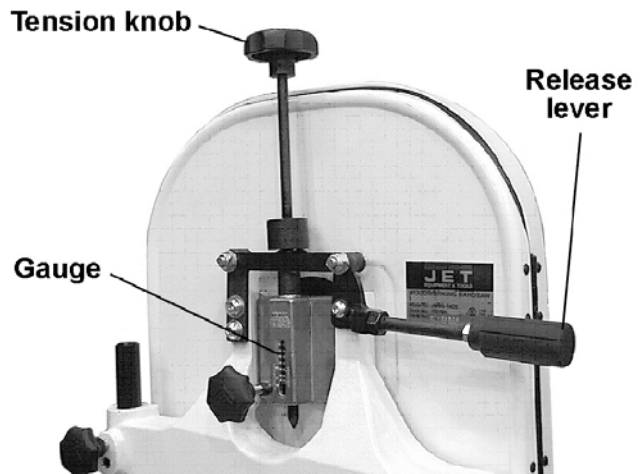
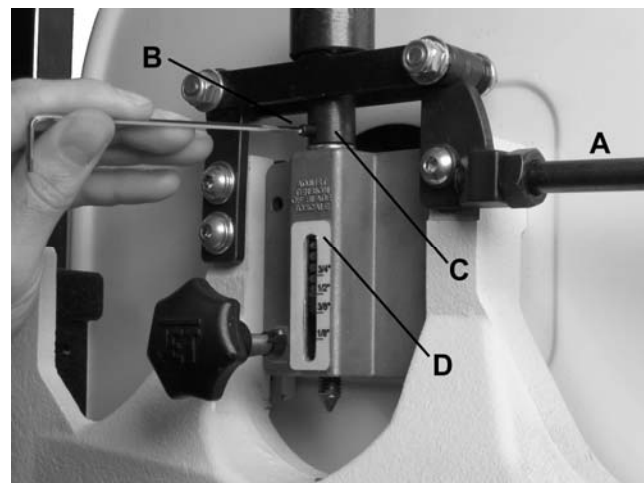

Figure 6
Figure 8
2. Loosen blade tension by pushing up on the release lever (Fig. 6).
3. Turn blade tension knob (Fig. 6) clockwise to tension blade. The blade width gauge (D, Fig. 8) indicates the approximate tension according to the width of the blade. Initially, set the blade tension to correspond to blade width\*.
7. Using a 2.5mm hex wrench loosen the set screw (B, Fig. 8) in the lower bushing (C, Fig. 8).
8. Using a pair of pliers rotate the bushing (C, Fig. 8) down only about 1 to 2 turns.
9. Replace the set screw (B, Fig. 8) and check for proper tension. Repeat the process if necessary.